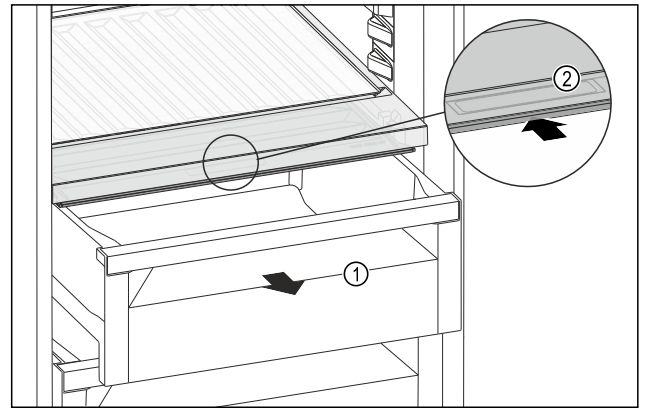

Fig. 118
- Pull out the drawer Fig. 118 (1).
- Grasp the recessed grip Fig. 118 (2) on the compartment lid and push the compartment lid backwards at the same time.